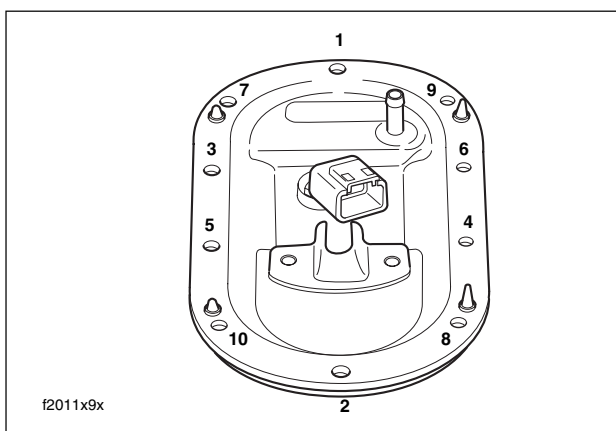

Figure 8-120. Canopy Torque Sequence (FLHR)
3. While pushing down on the canopy, align holes in canopy with those in fuel tank. Hand start ten **new** T20 TORX screws in perimeter of canopy. Tighten screws to 18-24 **in-lbs** (2.0-2.7 Nm) using the pattern shown in Figure 8-120.